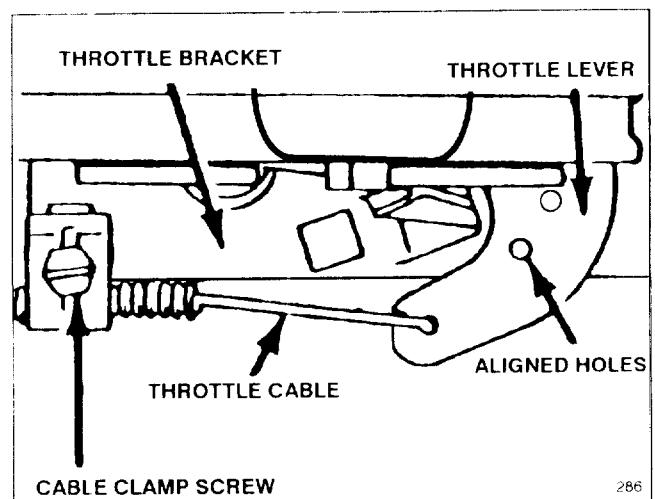

Figure 21
- Loosen cable clamp screw until throttle cable slides (Fig. 21).
4. Move throttle cable left or right until holes in throttle lever and throttle bracket align (Fig. 21).